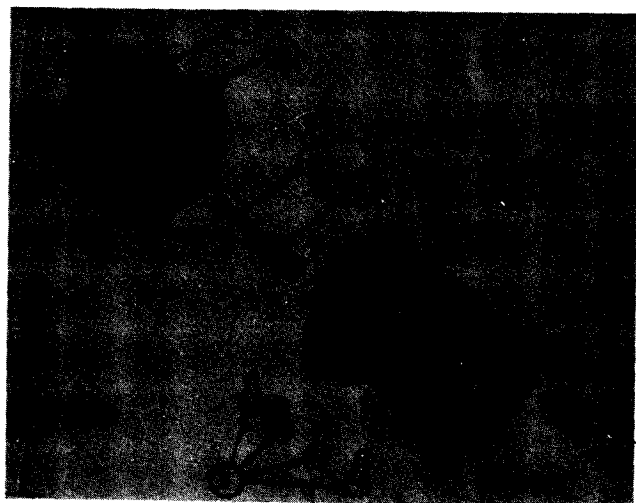

Figure 13-22
Punch mark upper and lower body for assembly reference. After removing cap screws (6, Fig. 13-22) separate upper valve body (5) from cover (2) and lower valve body (1). Remove push rod (3) and push rod guide (4).
Align previously made punch marks and secure lower body (1, Fig. 13-22), cover (2) and upper body (5) with cap screws and lock washers (6).